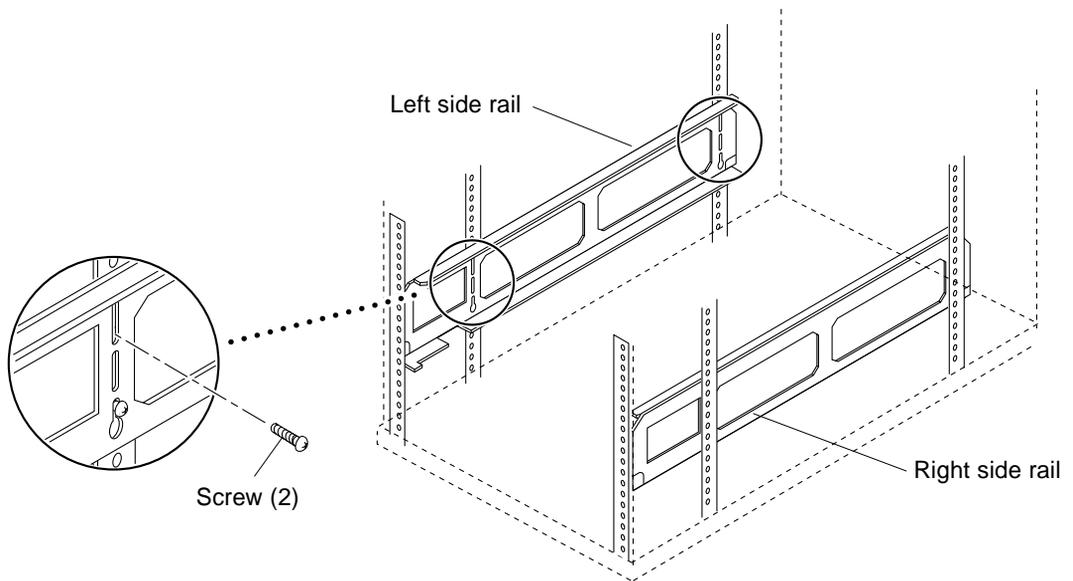

FIGURE 4-1 Threading Screws Into the Rack
7. **Loosely thread in the two bottom screws on the left side of the rack (FIGURE 4-1).**